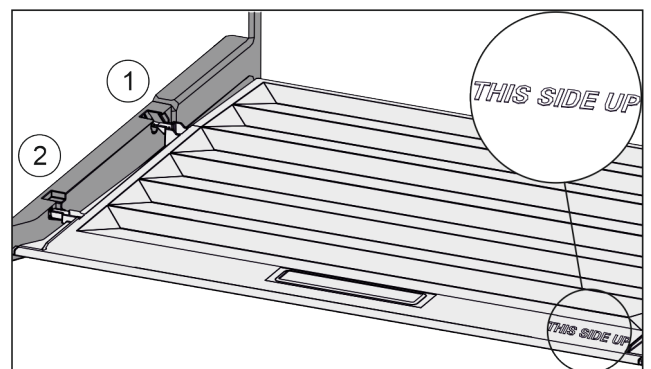

Fig. 99
- Insert the lip of the cover over the opening of the rear bracket Fig. 99 (1) and click into place Fig. 99 (2).